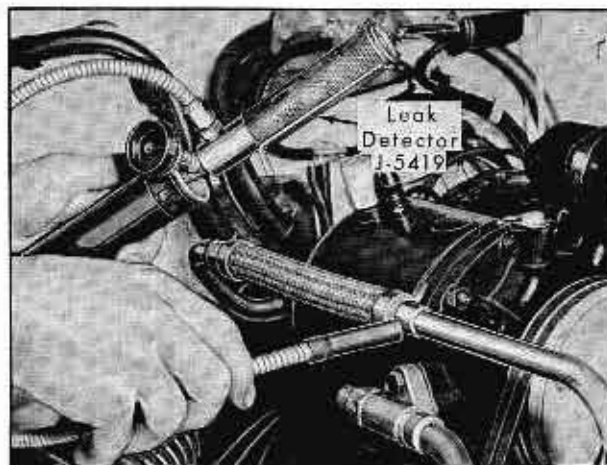

Fig. 16A-15 Testing for Leaks
7. Pour sixteen ounces of 525 viscosity Frigidaire oil from a graduated bottle into the high pressure relief valve opening in the compressor. Fig. 16A-14.